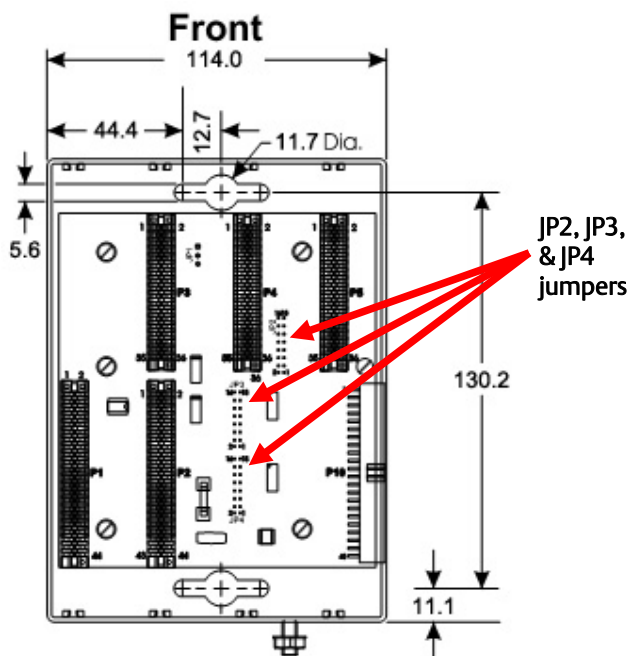

Figure 2. ControlWave Micro 4-Slot Base Housing Dimensions (in millimeters)
- **Base housing.** Position as desired on the enclosure mounting plate and locate mounting holes on the plate using the ControlWave Micro as a template. See *Figure 2* for dimensions. Drill and tap mounting holes in the plate. Position the ControlWave Micro over the tapped locations and attach to the plate with four screws (not provided). Torque the screws to approximately 1.1 to 1.4 N-m.
**Note:** If you are attaching an expansion housing to a 4-slot or 8-slot base housing, remove the three bus terminators (JP2, JP3, and JP4, shown on *Figure 2*) from the backplane of the 4-slot or 8-slot base housing.
Base housings have a ground lug (see *Figure 2*) that accommodates up to 5.19 mm (4 AWG) wire size. After you install the base and any expansion housings and **before** you install any modules in the base or expansion housings, you **must** run a ground wire between the base housing ground lug and a known good earth ground. All earth grounds must have an